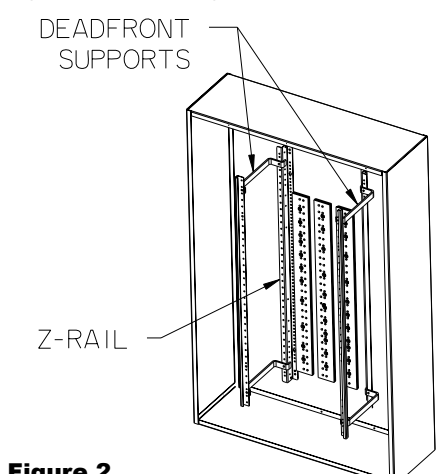
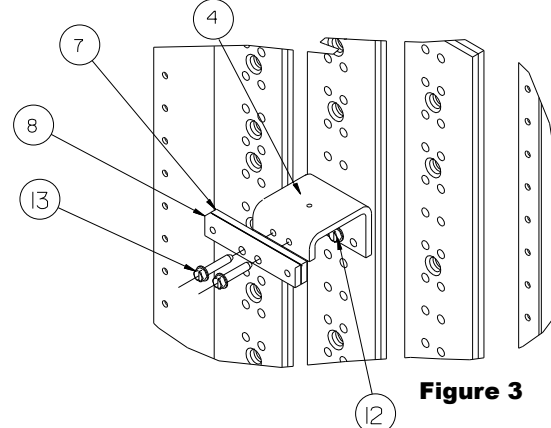
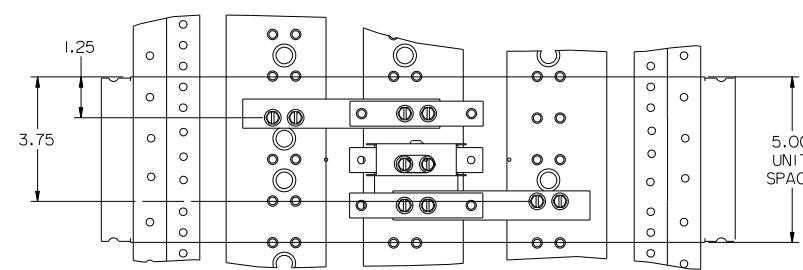
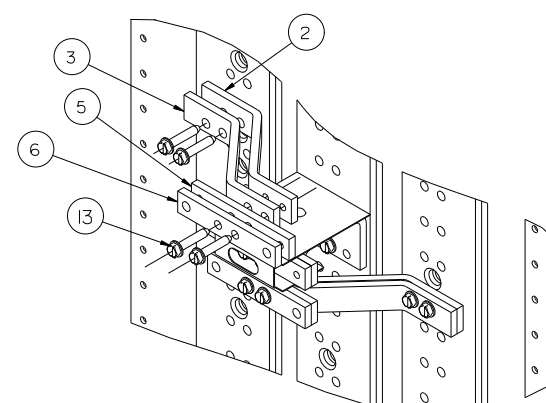

Figure 2
Figure 3
Figure 4
Figure 6
3. Reference fig. 2 - To mount a VL FG Frame breaker, 5" of empty unit space is required. To locate the mounting position, measure from the top deadfront support to the top of the empty unit space filler on the deadfront. Transfer this dimension from the deadfront support along the Z-rail and mark. This will be the unit space as shown on Fig. 4. After marking the Z-rail, remove the deadfront.
5. Reference fig. 3 and fig. 4 - The first items to be installed are the B-phase strap and B-phase links (items 4, 7, 8). Note that the 0.281 holes on the B-phase links (item 7 and 8) are offset and are not symmetrical as in A and C-phase links (items 5 and 6). Locate two 0.228" diameter holes on the B-phase of the section bus, 3.75" down from the top of 5.0" unit space selected. Insert two 1/4-20 thread-forming screws (see the mounting hardware kit, item 12, for proper length) through the two holes in the B-phase strap (item 4) and then into the 0.228" diameter holes on the B phase bus and tighten. Orient the B-phase links as shown in fig. 3 with the 0.281 holes located away from the bend on the B-phase strap (item 4). To install the B-phase links, insert two 1/4-20X1-1/4" screw (item 13) through two 0.281" holes on B bottom and top links (item 7 and 8) and then into the 0.228" diameter holes on the B-phase strap and tighten. Torque all screws to the values specified on the rear of the deadfront.
7. Reference fig. 4 and fig. 6 - Locate two 0.228" diameter holes in the A-phase section bus, 1-1/4" down from the top of 5.0" unit space selected. Insert two 1/4-20 thread-forming screws (see the mounting hardware kit, item 12, for proper length) through the two holes in the A-phase straps (item 2 and 3) and then into the 0.228" diameter holes on the A-phase bus and tighten. To install the C-phase strap (item 2 and 3) locate two 0.228" diameter holes on the C-phase section bus 3.75" down from the top of 5.0" unit space selected. Insert two more 1/4-20 screws through the two holes in the strap and then into the 0.228" diameter holes in the C-phase section bus. To install A and C-phase links (item 5 and 6) repeat the installation steps similar to B-phase links installation, orienting the link bars as shown so as to have 1.375" vertically between centers of the bars. Torque all screws to the values specified on the rear of the deadfront.